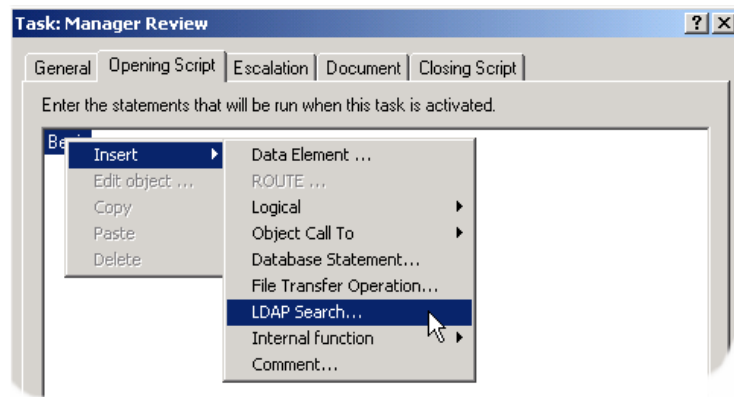

Figure 37-8. Closing Script tab with LDAP functionality inserted into CRbuilder process logic.
- ❶ Double-click on a task to open it, then click the **Closing** or **Opening** script.
- ❷ Right-click on the **Begin** statement, select **LDAP Search** from the **Insert** menu (see Figure 37-8, below).